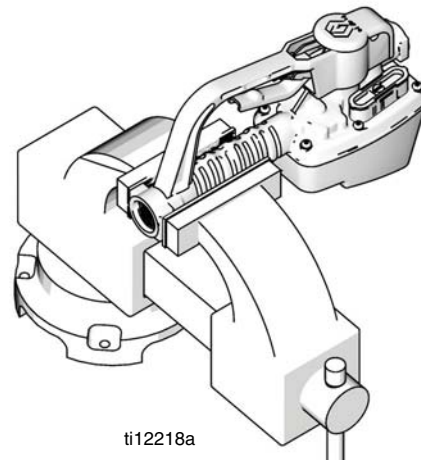

FIG. 4
4. Secure meter in a vise (FIG. 4).